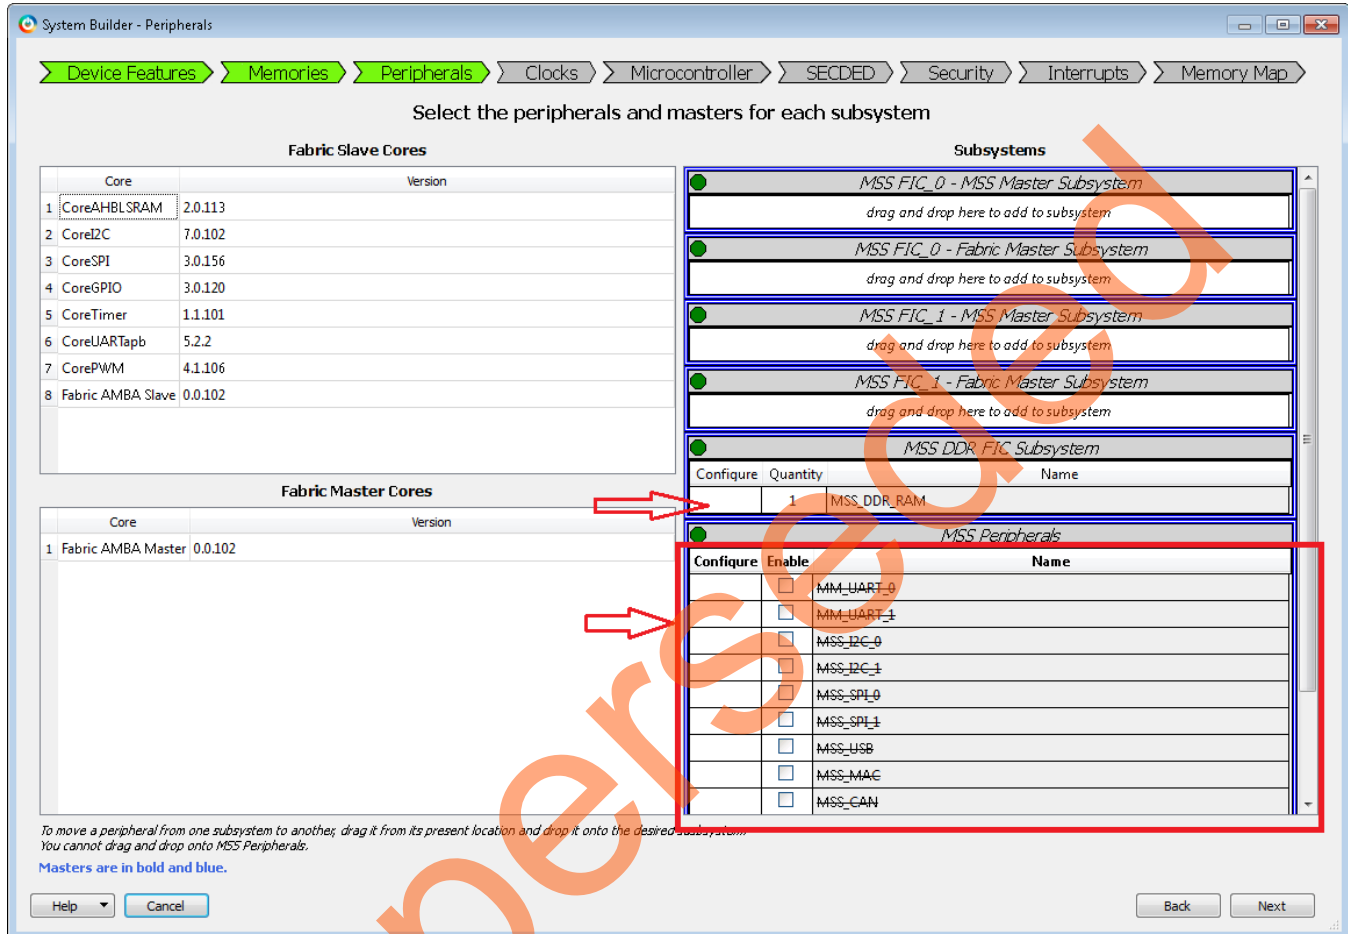

Figure 6. System Builder Configurator – Select Peripherals Page
9. Select **Next**, System Builder- **Select Peripherals** page is displayed, as shown in Figure 6.
This tutorial will not use any MSS peripherals, therefore clear all the **MSS Peripherals** (marked on Figure 6 below).
Since the system is using an MSS DDR (on the first page of the System Builder), the MSS_DDR_RAM is shown under the MSS DDR FIC Subsystem, as shown in Figure 6.